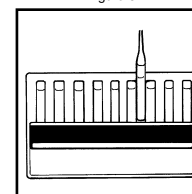

Figure 6
b. **High Range Comparator (fig. 6):** Place the ampoule between the color standards until the best color match is found.